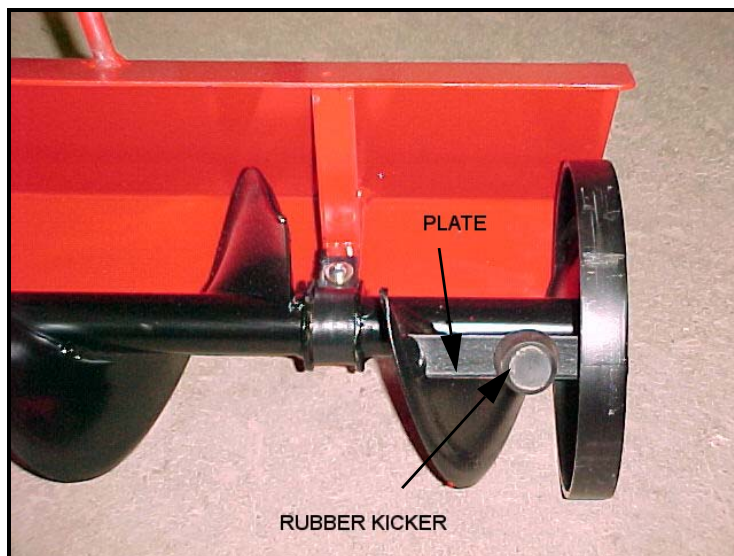

Figure 2.1 Rubber Kicker
- The rubber kicker on each section's stationary wheel is adjustable – the further out, the more it drives the sweep forward into the pile. The kicker is adjusted by placing or removing washers between the plate and the kicker (see Figure 2.1).